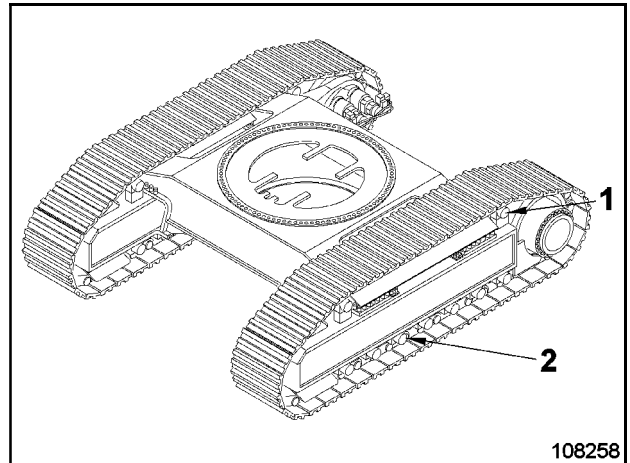

Fig. 3-109:
- ➔ Clean upper rollers and track rollers (1 and 2 ,Fig. 3-109:) thoroughly.